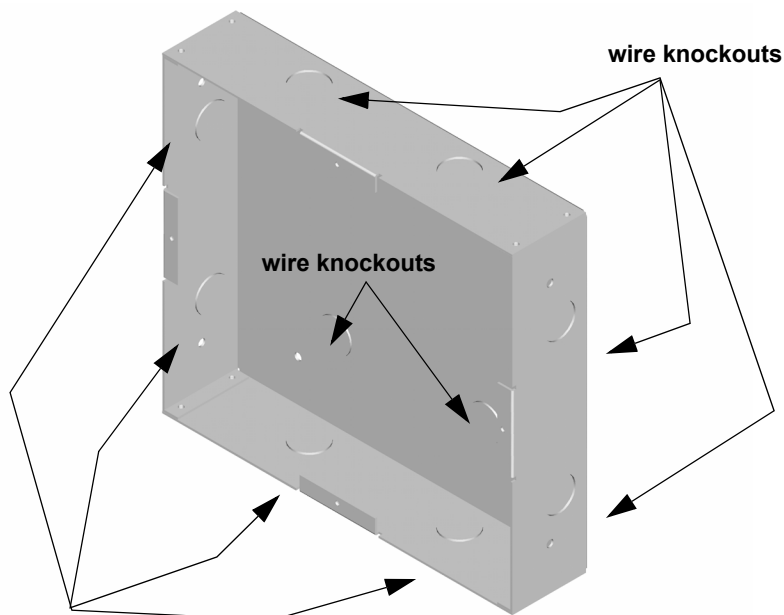

Figure 4.13 Back Box Knockout Locations
2. Remove knockout holes as needed for wires. See Figure 4.13 for backbox knockout locations.
1. Remove the desired knock out. See Figure 4.13.